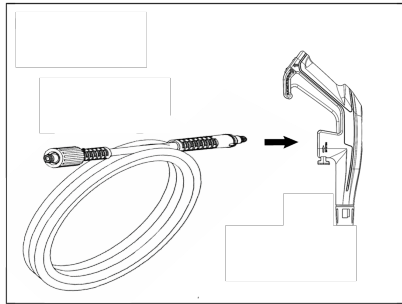

Figure 5: How to connect/disconnect the High Pressure Hose (4).
Take the High Pressure Hose (4) and push it into the bottom of the Trigger Gun (1) until a click is heard, as shown in Figure 5. To remove the hose, press in the High Pressure Hose Release Button (13) above the connection and pull the High Pressure Hose (4) to remove.